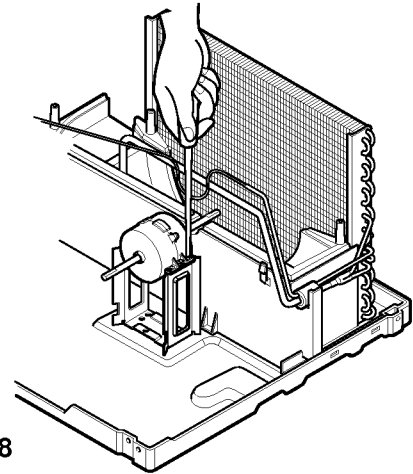

Figure 18
9. Re-install the components by referring to the above removal procedure. (See figure 18)